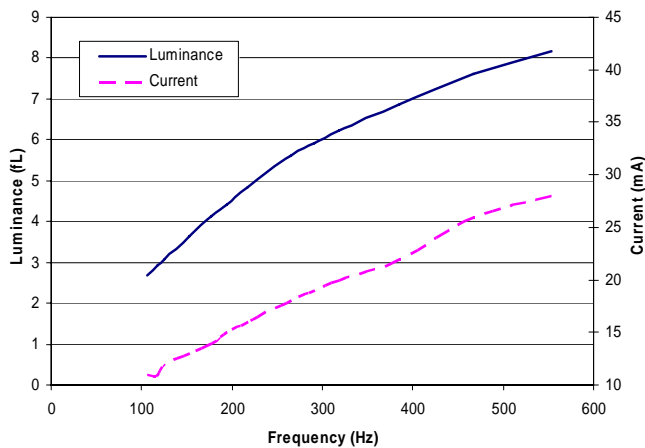

Figure 2: Typical Luminance and Current vs. Lamp Frequency.
The selection of the CLF value can also affect the output brightness and current consumption of the driver. The EL lamp frequency (LF) depends on lamp size, drive conditions, and mainly on the CLF value selected. Figures 2 and 3 show typical brightness and current draw of a D372A circuit with several different CLF values. The data was taken with an average 1.0mH inductor.